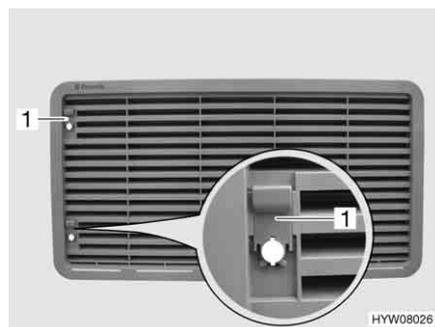

Fig. 224 Refrigerator ventilation grill (with sliding trap)
- Push sliding trap (Fig. 224,1) upward.